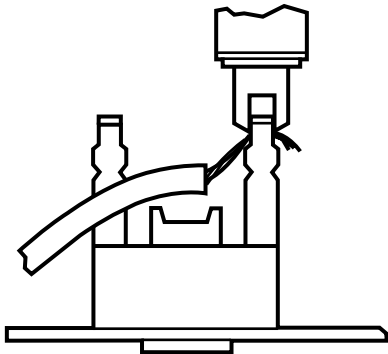

Figure 3-2. Using a punchdown tool to hardwire the Panel.
6. Position an Type 110 punchdown tool over one of the wires, with the tool surface labeled “CUT” toward the *outside* (toward the *edge* of the Panel), as shown in Figure 3-2 on the next page.